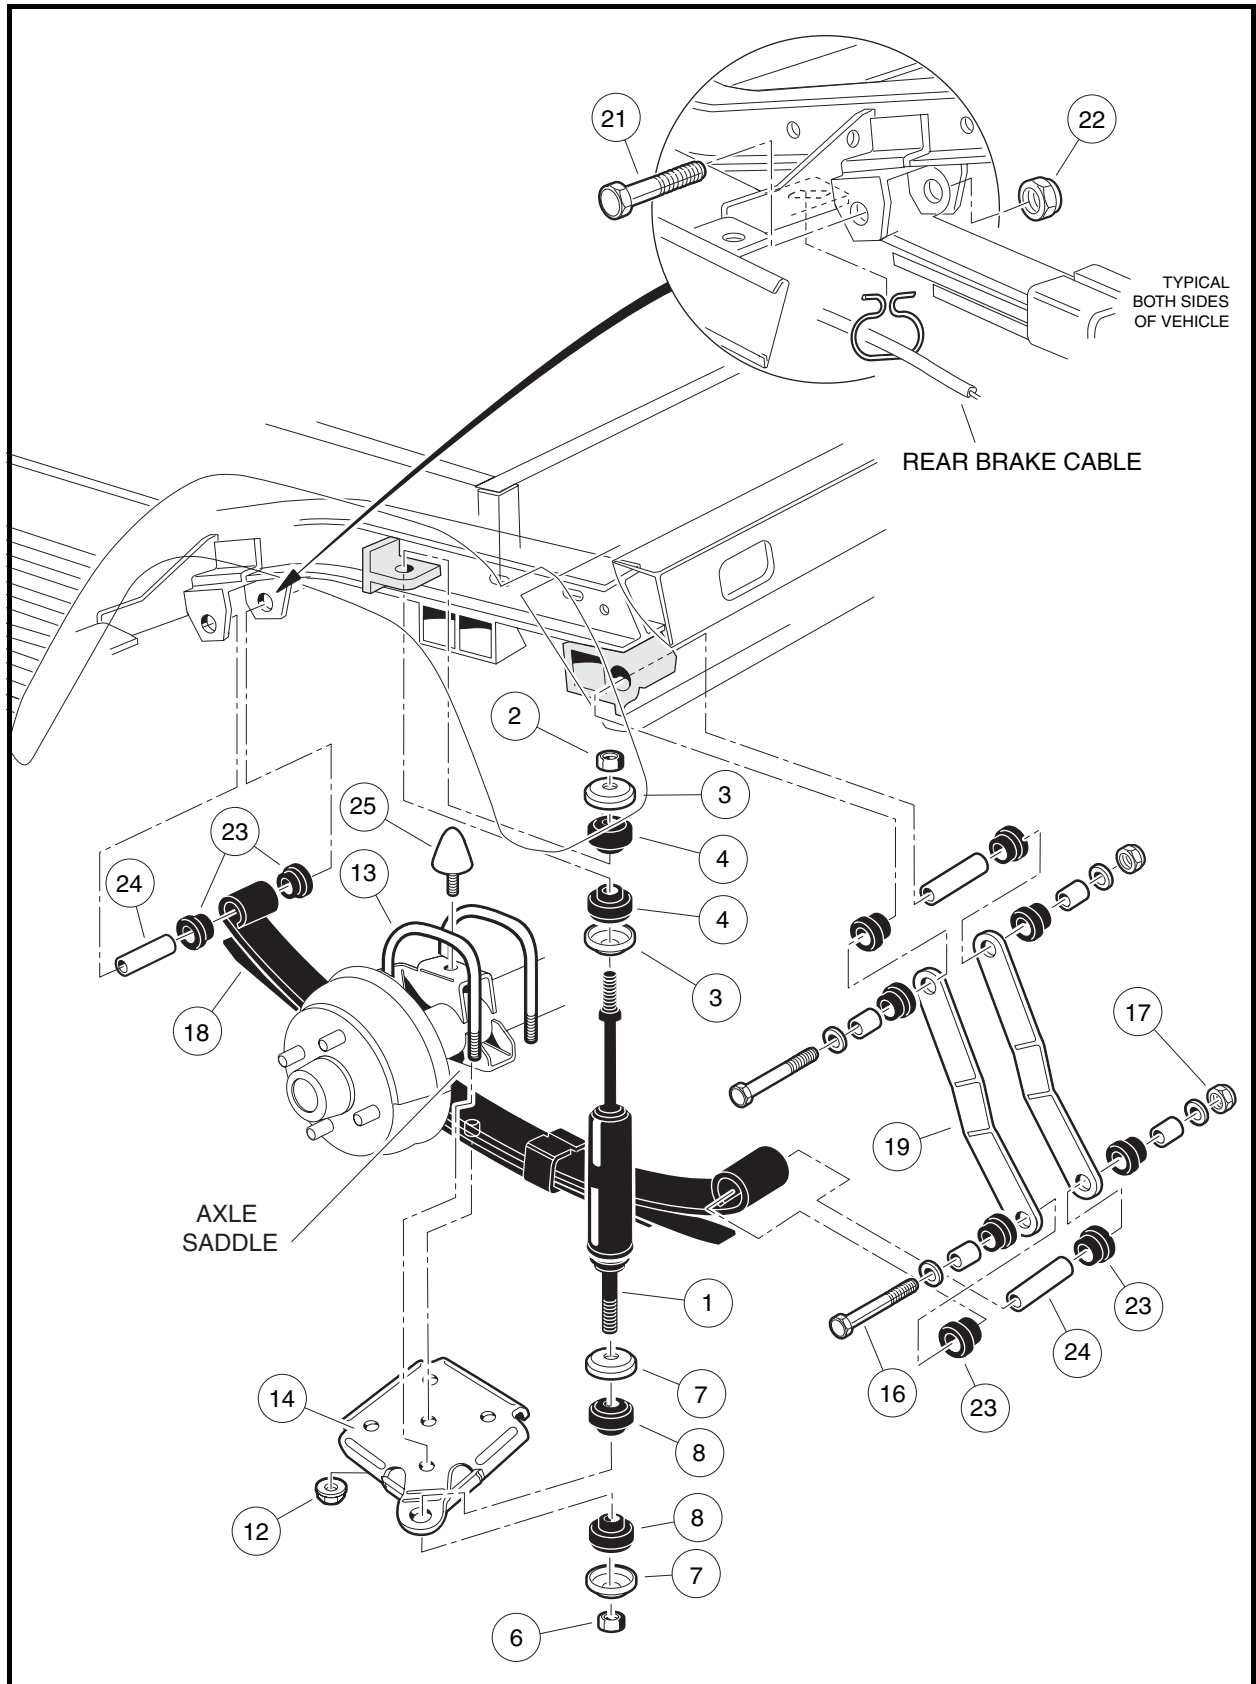

Figure 9-1 Rear Suspension for MC012C-AS00 Transaxle
1. Check shock absorbers (1) for damage or fluid leakage around the housing and replace if necessary (**Figure 9-1, Page 9-2**).
2. Remove the nut (2), cup washers (3) and rubber bushings (4) from the upper shock absorber stem.
2. Tighten nut (2) until rubber bushings (4) expand to the same diameter as the cup washers (3) (**Figure 9-1, Page 9-2**).
3. Install mounting hardware and tighten the nut (6) until the rubber bushings (8) expand to the same diameter as the cup washers (7).
7. Remove the locknuts (12) attaching the U-bolts (13) to the shock mount bracket (14) (**Figure 9-1, Page 9-2**).
8. Remove bolt (16) and locknut (17) attaching the leaf spring (18) to the rear shackles (19).
9. Allow rear of leaf spring (18) to rest on the ground and remove the bolt (21) and locknut (22) attaching the front of the spring to the vehicle frame. Remove spring from vehicle.
10. Inspect the rubber bushings (23) and steel sleeves (24) in the spring eyes and replace them if they are worn or damaged.
1. Install rubber bushings (23) and steel sleeves (24) into leaf spring eyes (**Figure 9-1, Page 9-2**).
2. Place front of leaf spring (18) into front mounts and insert grade-eight bolt (21) through mount and leaf spring eye. Attach locknut (22) and tighten to 15 ft-lb (20.3 N·m). See following **CAUTION**.
3. Align opposite end of leaf spring with spring shackles (19). Insert bolt (16) through shackles and leaf spring eye. Attach locknut (17) and tighten to 15 ft-lb (20.3 N·m). Lower transaxle onto leaf spring (18) (Figure 9-1, Page 9-2). See following CAUTION.
- When placing transaxle on spring, be sure to position locating bolt on the spring into the center locating hole in the axle saddle (Figure 9-1, Page 9-2).
4. Install shock mount bracket (14) onto locating bolt of leaf-spring.
5. Install U-bolts (13) and locknuts (12) and tighten locknuts in a crisscross pattern to 35 ft-lb (47.5 N·m).